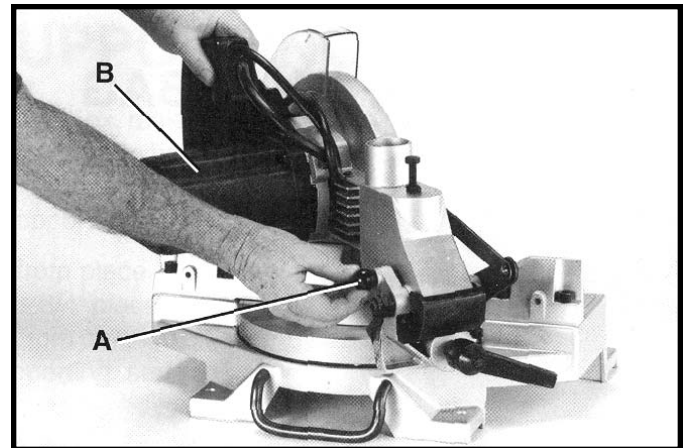

Fig. 3
1. Pull out cuttinghead lockpin (A) Fig. 3, and move the cuttinghead (B) to the up position.